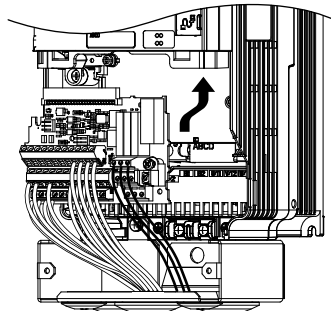

Figure 6.70 Install the Terminal Board
1. After wiring the main circuit, connect the terminal block to the drive as shown in Figure 6.70. Use the installation screw to fasten the terminal block into place.